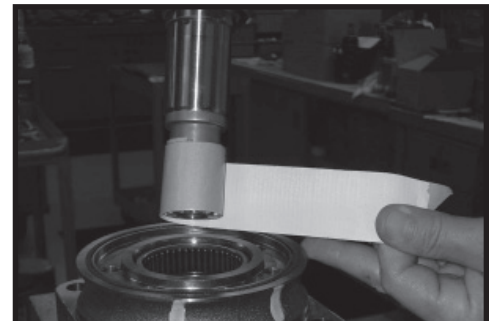

Figure 46
**Apply masking tape to shaft** 7. Apply masking tape around splines or keyway on shaft (12) to prevent damage to seal. SEE FIGURE 46.